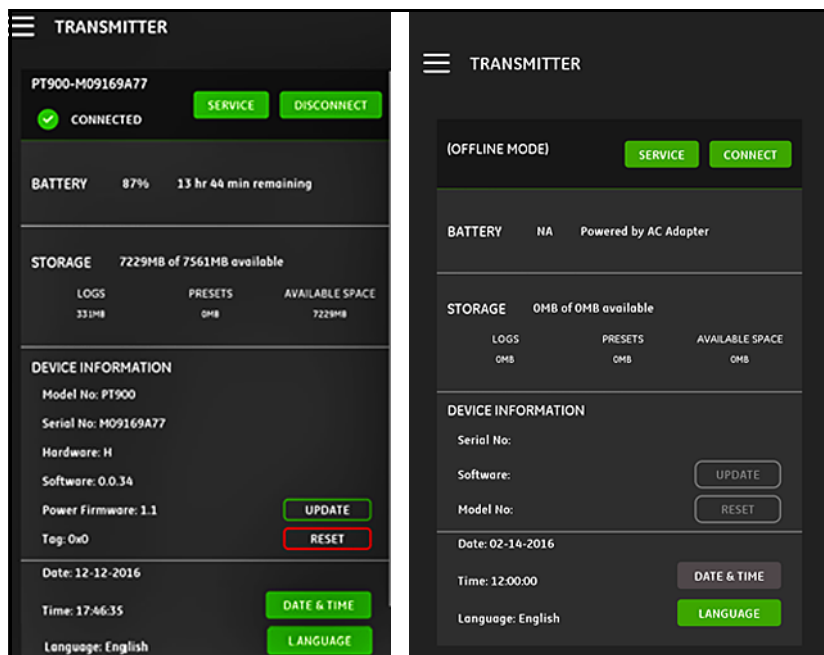

Figure 118: CONNECTED (Left) and OFFLINE (Right) Menus
Important: *Before creating a new log, be sure to synchronize the transmitter and the tablet time settings by clicking the **DATE & TIME** button in the **TRANSMITTER** menu (see Figure 118 on page 116).*
1. Be sure the transmitter and tablet time settings are synchronized by setting the transmitter time in the **TRANSMITTER > DATE & TIME** menu (see *Figure 118 on page 116*).
If a PT900 transmitter is **CONNECTED** to the tablet APP via *Bluetooth*, the **TRANSMITTER** menu shows device information about the PT900 transmitter, the battery and the memory usage. However, if the connection is **OFFLINE**, this information is unavailable. See examples of both possibilities in *Figure 118* below.
7. Go to the **TRANSMITTER** menu (see *Figure 118* on page 116) and verify that the device information is correct.